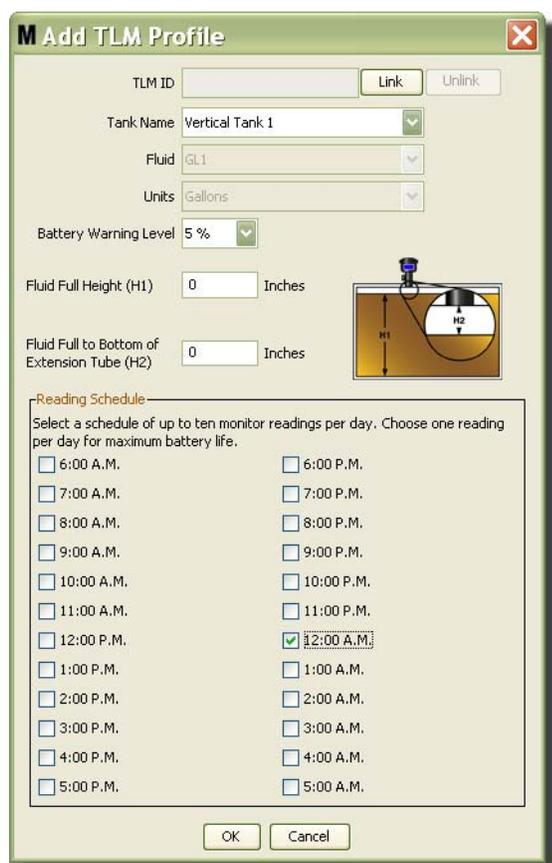

FIG. 124
3. The Add TLM Profile screen shown in FIG. 124 displays.
2. On the PC screen shown in FIG. 124, select the Link button and from the drop-down list select the TLM you are creating this profile for. This will link the TLM to the Matrix PC and enable communication between the two devices in the system.
After clicking the “Link” button the “Link” button in FIG. 124 will no longer be active and instead an “Unlink” button is active. Clicking the “Unlink” button breaks the association between this TLM and the Matrix PC.